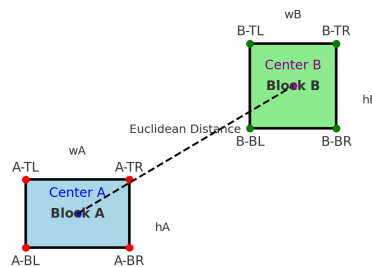

Figure 1
1. **Minimizing the total wiring distance:** Figure 1 above explains how the center-to-center wiring length can be calculated when both the blocks' height, width (w_A , h_A , w_B , h_B), and any single pair of corner points are given [suppose, bottom left of A (A-BL) and bottom left of B (B-BL) are given]. This is essentially the Euclidean Distance between two geometric points (two centers) in a 2D space. The **less total** wiring distance needed, the **more desirable** the layout is.